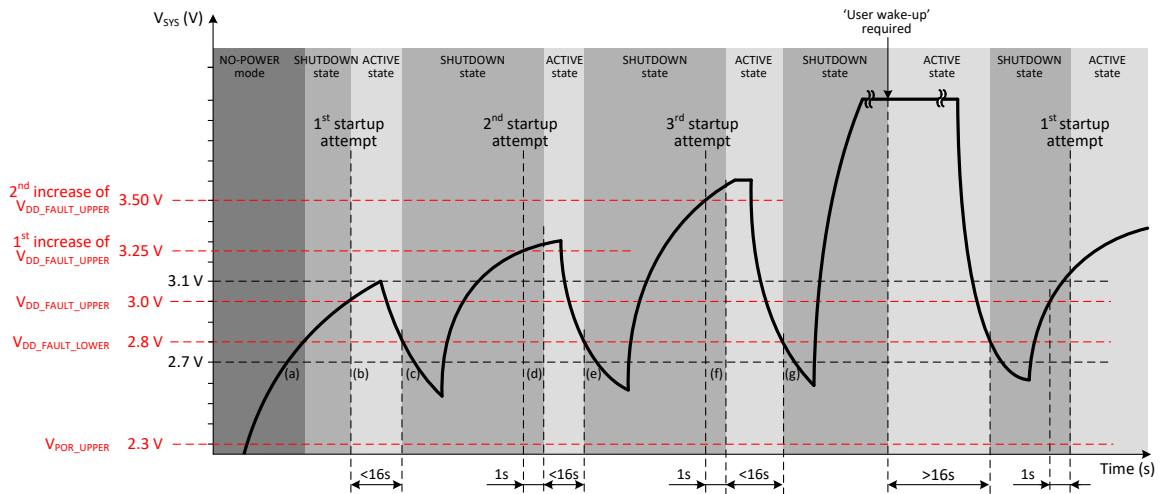

Figure 16: VDD_START Faults
The DA9063 `VDD_START` feature prevents endless looping of false starts in a weakly-powered system. `VDD_START` limits the number of automatic restart attempts to three. With reference to Figure 16:
- Figure 16\(a\): The PMIC starts from NO-POWER mode.
- Figure 16\(b\): First startup attempt. The PMIC transitions to the ACTIVE state when V_{SYS} rises above $V_{DD_FAULT_UPPER}$.
- Figure 16\(c\): If, during the first startup attempt, the V_{SYS} supply drops below $V_{DD_FAULT_LOWER}$ for more than 100 ms, the PMIC shuts down to the SHUTDOWN state. $V_{DD_FAULT_UPPER}$ is increased automatically by 250 mV. However, the increased $V_{DD_FAULT_UPPER}$ is limited to a maximum of 3.70 V.
- Figure 16\(d\): Second startup attempt. If V_{SYS} rises above the new $V_{DD_FAULT_UPPER}$ threshold, then the PMIC will power-up to the ACTIVE state.
- Figure 16\(e\): If, during the second startup attempt, the V_{SYS} supply drops below $V_{DD_FAULT_LOWER}$ for more than 100 ms, the PMIC shuts down to the SHUTDOWN state. $V_{DD_FAULT_UPPER}$ is increased automatically by a further 250 mV (500 mV above its original setting). However, the increased $V_{DD_FAULT_UPPER}$ is limited to a maximum of 3.70 V.
- Figure 16\(f\): Third startup attempt. If V_{SYS} rises above the new $V_{DD_FAULT_UPPER}$ threshold, then the PMIC will power-up to the ACTIVE state.
- Figure 16\(g\): If, during the third startup attempt, the V_{SYS} supply drops below $V_{DD_FAULT_LOWER}$ for more than 100 ms, the PMIC shuts down. From then on, `AUTO_BOOT` and wake-up from non-user events are temporarily disabled. 'User events' are defined in Table 40.